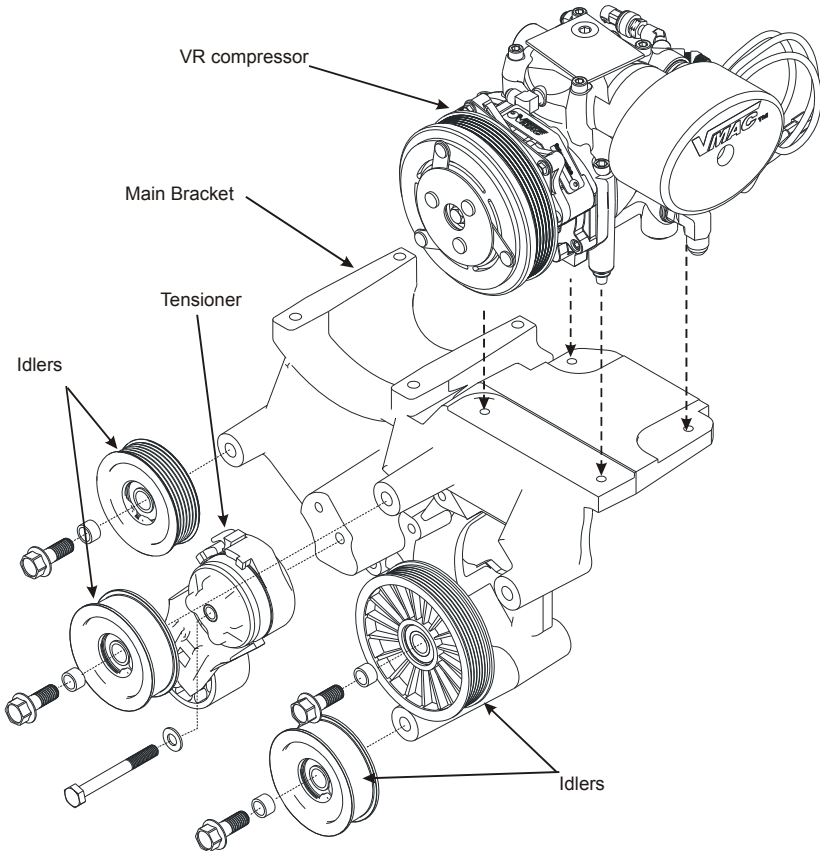

Figure 5.3
- ☐ Remove the belt tensioner assembly and the idlers from the VR main bracket (Figure 5.3).